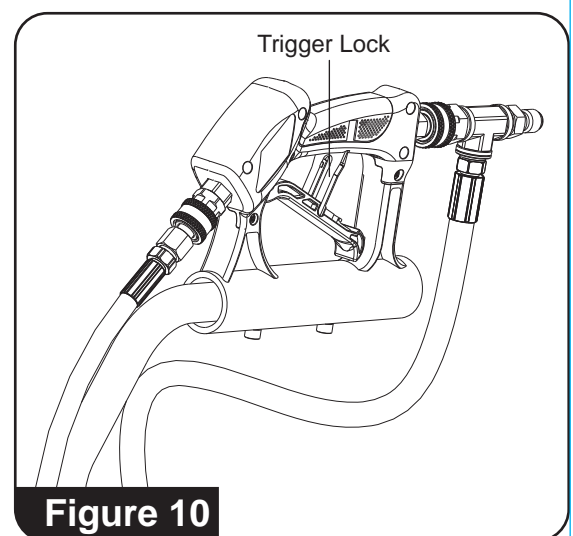

Figure 10
1. Lock the trigger gun on the surface cleaner by moving the trigger lock to a 90° angle so it rests against the handle grip (**See Figure 10**).